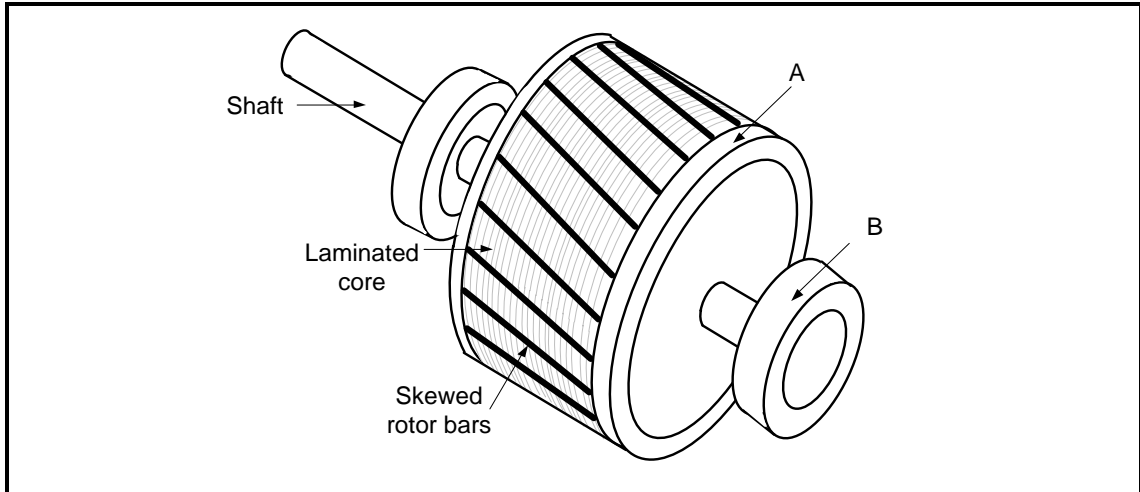

FIGURE 5.1: SCHEMATIC DIAGRAM OF A ROTOR
5.1 FIGURE 5.1 below shows the rotor of an induction motor. Answer the questions that follow.